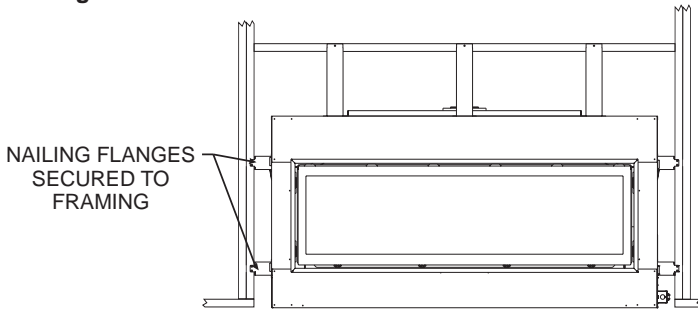

Figure 25
5. Secure fireplace to framing with nailing flanges. Preset depth to suit facing material (flush or 1/2in set back depths). See Figure 25.